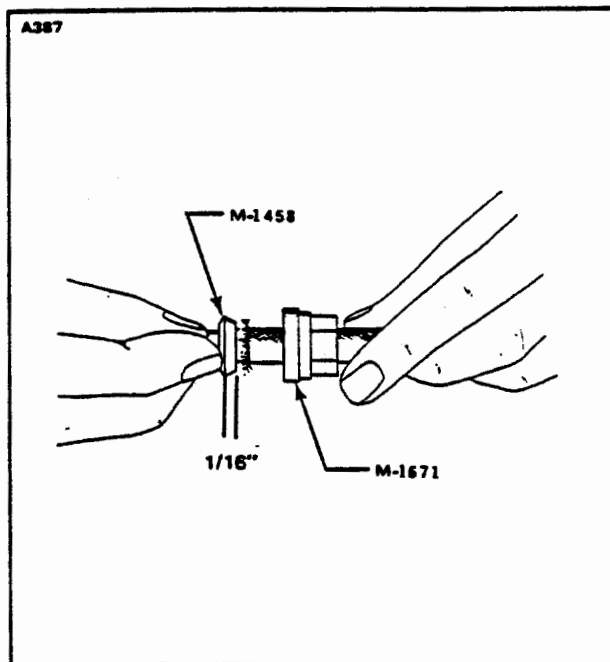

Figure 8-27. Installation of Ferrule
- i. On spark plug end of wire install M-1458 Male Tapered Drive Ferrule over silicone insulation and under shielding to within .062 inch from flange of ferrule. Make certain that shielding is away from ferrule flange then slide Ferrule M-1671 over the M-1458 Drive Ferrule until tight. Refer to Figure 8-27.